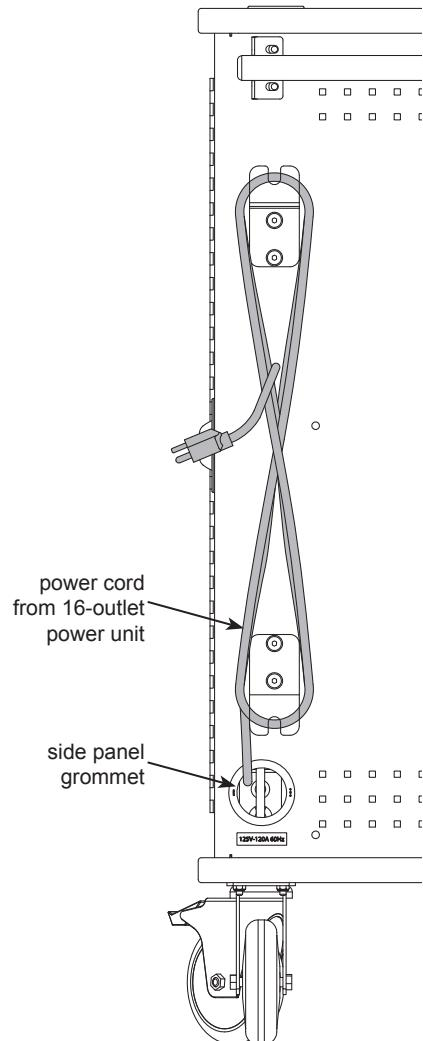

Figure 2
3. Power cords can be routed through the side panel grommets as shown. **Figure 2**.